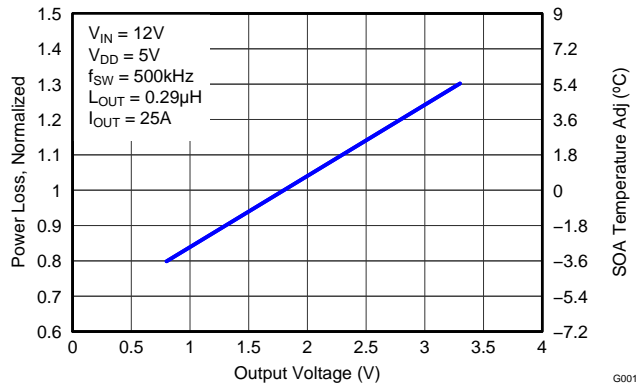

Figure 9. Normalized Power Loss vs Output Voltage
- Normalized Power Loss for output voltage \approx 0.94 (Figure 9)
- SOA adjustment for output voltage \approx -1.1°C (Figure 9)